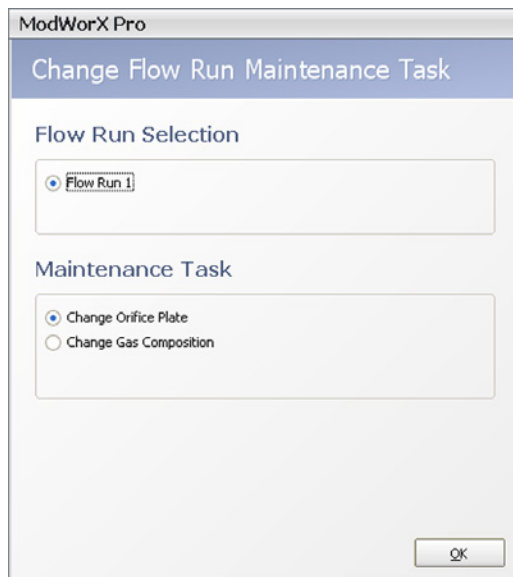

Figure 9.2
- Click **Yes** at the Enter Maintenance Mode prompt. The Change Flow Run Maintenance Task screen will appear (Figure 9.2).